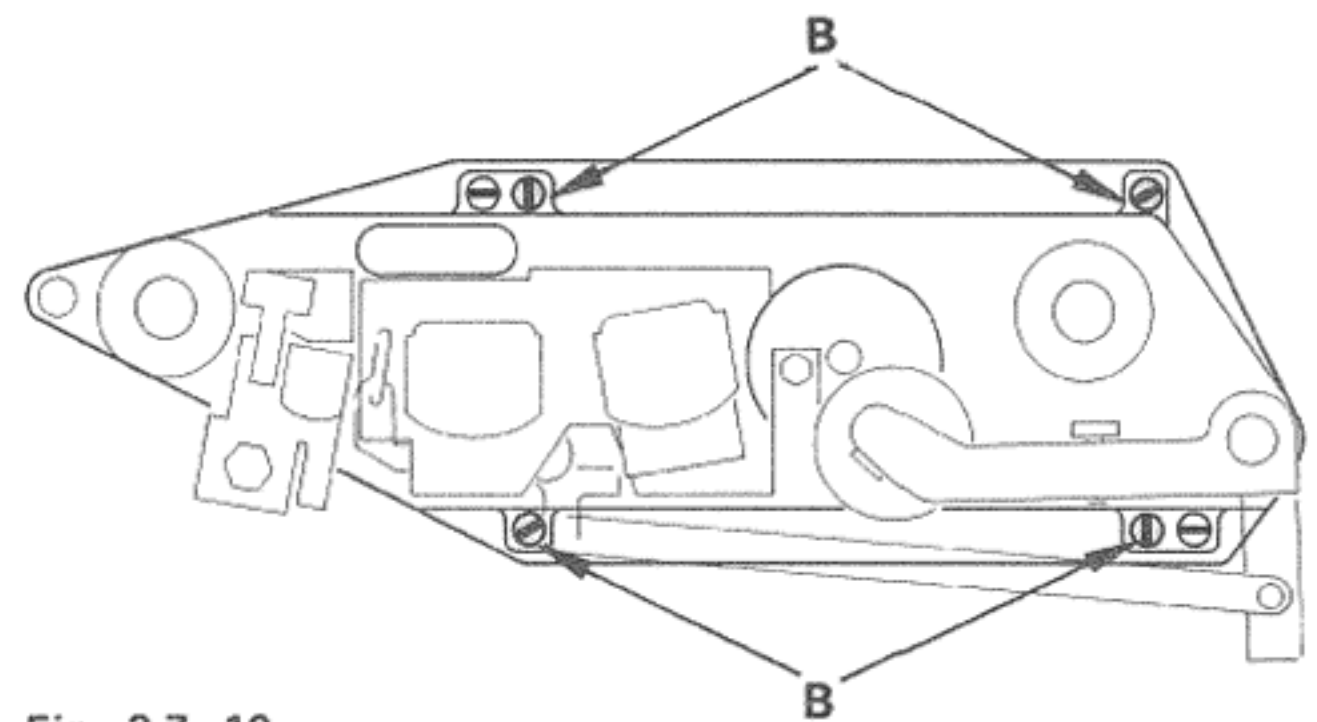

Fig . 3.7-10
- Unscrew motor fasteners B ( fig. 3.7-10 ) on headblock. The other screws on headblock shall not be touched as they retain the headblock itself.